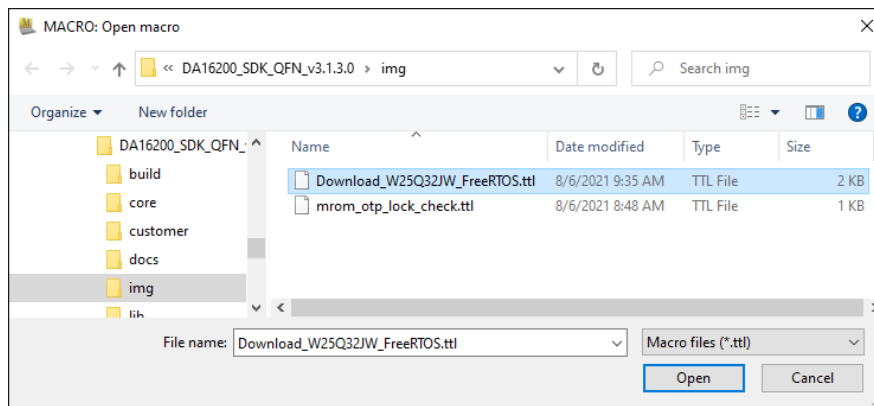

Figure 5: Open Macro File
2. When the **MACRO: Open Macro** file selection window opens, navigate to the directory where the firmware images are stored and select the **.ttl** file as shown in Figure 5.